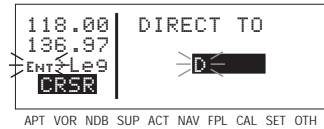

Figure 3-46
- Select the letter "D" as the waypoint identifier (figure 3-46). **D** is the full identifier of several waypoints in the KLX 135A data base.